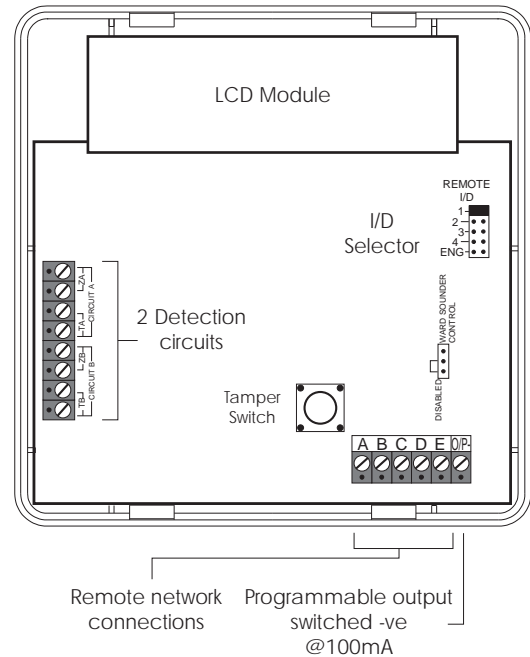

Figure 8 TS900 Remote Keypad Layout
3. Connect "Remote Network" and detection circuit cables to the appropriate terminals, see *Figure 8*.